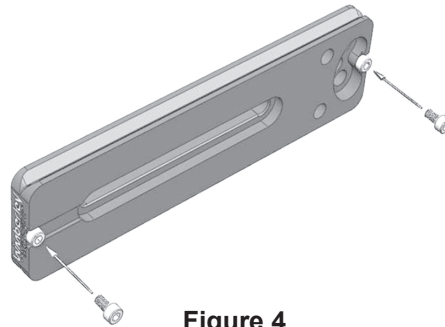

Figure 4
3. Install safety stop screws (Fig. 4 on p. 2). This is not required, but it is highly recommended to insure the safety of your gear. See p. 2 for details.
A Wimberley security innovation that has since been adopted by many other manufacturers as a standard feature, the safety stop feature on your Wimberley plate prevents the lens plate from sliding completely out of a compatible quick-release clamp if the clamping jaws become loosened accidentally. Your Wimberley plate comes with four 3mm screws and a matching hex key. Two of these screws can be installed into the front and back threaded holes on the bottom of the plate to serve as safety stops (Fig. 4). **If you opt to use both front and back stops, you must open the jaws of the quick-release clamp wide enough to load your lens from the top (instead of sliding it in from the side).** Top loading is a little less convenient, but if you use both stops you can be certain that your lens will not slide out of the clamp. *Note: this feature may not prevent equipment loss with a lever-release clamp that accidentally opens to its full width.*